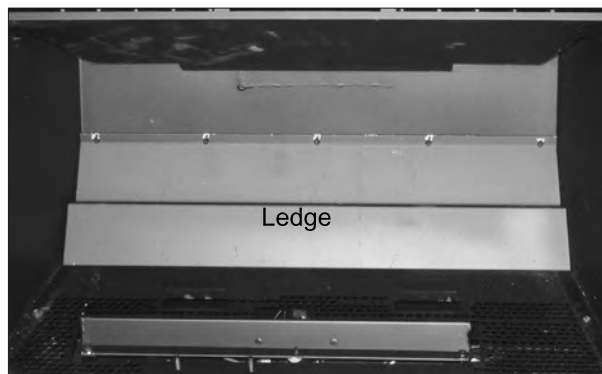

Figure 69: Back Brick Panel Ledge.
5. There is a ledge at the back of the firebox (see Figure 69). Place the back brick panel on the ledge and ensure the panel is flush at the bottom and top (refer to Figure 70). Do not push at the center of the panel.